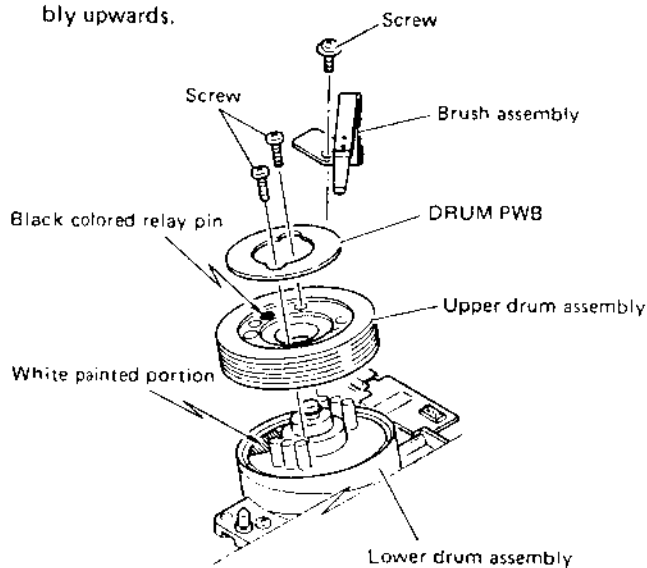

Fig. 1-2-1 Upper drum assembly
- 1) Install a new upper drum assembly so that the black-colored relay pin of the upper drum assembly overlies the white painted portion of the lower drum assembly, as shown in Fig. 1-2-1.